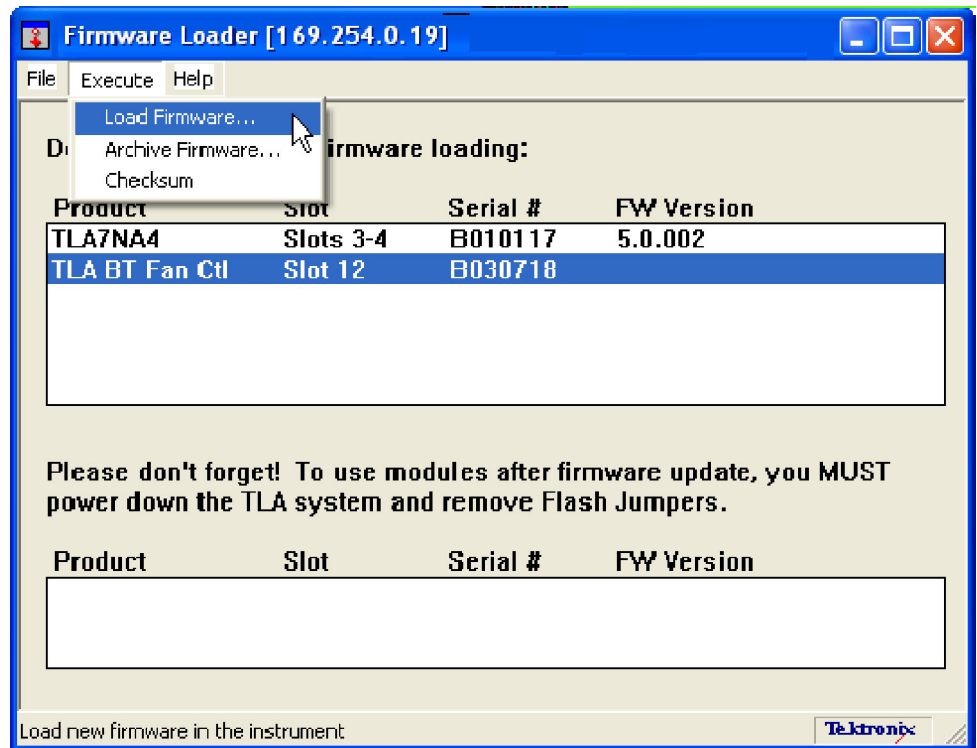

Figure 40: List of modules available for firmware update
8. When the search is finished, the Firmware Loader dialog box reappears with a list of devices. (See Figure 40 on page 41.)